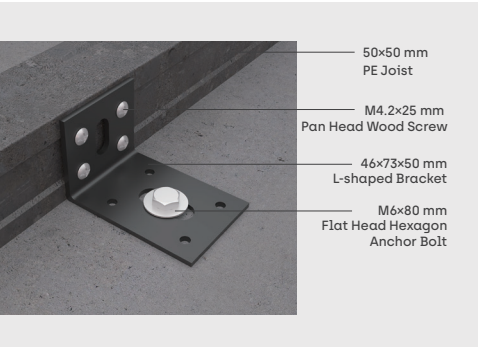

Figure 2-3
2. Secure the joists with 46×73×50 mm L-shaped brackets, with a brackets spacing of ≤ 500 mm. End brackets should be placed no more than 100 mm from the joist ends, as shown in Figures 2-3 and 2-4.